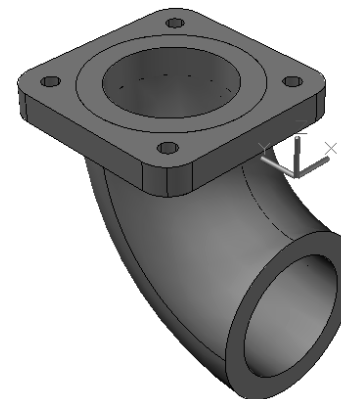

Figure 26-131 Resulting model after Step 10
15. Again, choose the **Press/Pull** tool and pull the area shown as Area B in Figure 26-131 by the same value as specified in Step 8. The resulting model should be similar to the one shown in Figure 26-131.